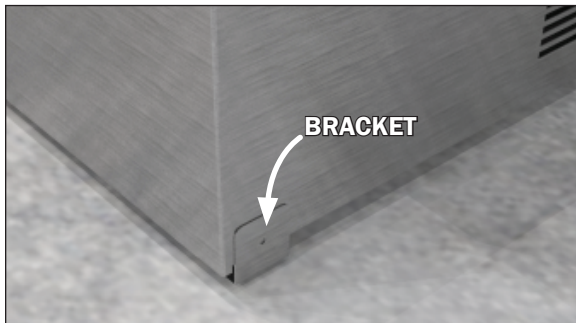

Fig. 5 Seismic anchoring locations (caster brackets)
9. (CASTERS) If necessary, attach two brackets at two separate corners of the case (Fig. 5) and fasten to the floor with concrete anchors. **Note: The brackets do not need to be affixed in the exact locations specified here. However, be sure that the anchors are close to the corners and that at least two brackets are used, one at each corner.** You can use more than two brackets for anchoring if you want further support this way.